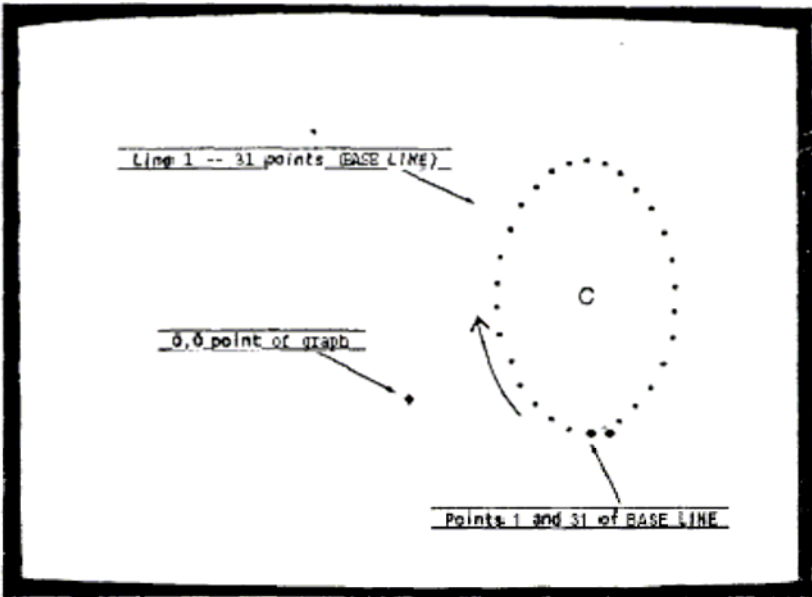

fig. 49A (HIGH LINE GRAPH)
3. Type the "A" (Advance/Draw) key to send the cursor to pt. 1 of fig. 49A (the bottom-most point of the outside perimeter); then type the "." (Plot) key to form a STARTING LINE between pt. (1) of the LOW LINE and pt. 1 of the HIGH LINE (fig. 49A).
4. Construct all of the triangles of the under-surface panel by first moving the cursor with the "A" (Advance/Draw) key; then constructing either two triangles with the "R" (Rectangle) key or one triangle with the "." (Plot) key as needed. (NOTE: Since there are more points on the outer perimeter than there are on the Inner perimeter, It is necessary to use the "." (Plot) key occasionally to keep both points of the LEADING LINE as close together as possible as the LEADING LINE moves around the oval. Try not to let the outer point of the LEADING LINE lag behind as the LEADING LINE moves around the oval.) Stop when the LEADING LINE coincides with the STARTING LINE (fig. 49A). Use the RIGHT HAND RULE to confirm that the under-surface surface is the visible surface of the triangle. (Remember, little finger on LOW LINE.)
5. Use the "2" (Zero) key to load "0" Into the PAINT NUMBER register. Use the " > " (Advance/LOW LINE) key to jump the cursor to the first point of the LOW LINE (Pt. Q), fig. 49A). Do not plot a point at that location yet. First, use the " > " (Advance/LOW LINE) key to advance the cursor all the way around the loop, In a clockwise direction, until you hear a "beep". This positions the cursor over the last point of the LOW LINE (Pt. (31), which is at the same screen location as the first point of the LOW LINE). Plot the first EXTRA POINT of the inner loop at that location.